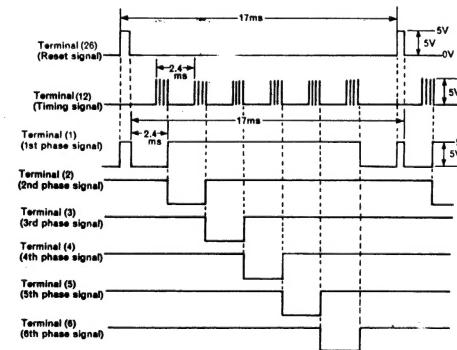

Fig. 9
The dynamic lighting system, which lights each digit at specified intervals while synchronizing with the segment signals employed in the system lighting the display tube in this unit. The 6-digit signal is generated inside IC505 to scan this. This 6-digit signal is concurrently used as the timing signal for the clock function matrix switch and the data transfer timing signal of the frequency counter. The reference signal for the 6 digit signal is obtained from the microcomputer to synchronize the microcomputer and peripheral circuitry. As the reference signal from the microcomputer, 4 timing pulses are output from terminal (12) as shown in Fig. 9 every 2.4ms and the reset pulse from terminal (13) every 17ms. These outputs are input to terminals (8) and (26) of IC505. First, when the reset pulse is input to terminal (26), output terminals (1) – (6) of the 6-phase signal are set to H level from the rise time till just before the decay of the reset pulse. When the reset signal decays, the 1st phase (output terminal (1)) of the 6-phase signal is set to L level for 2.4ms, until the 4th timing pulse input from terminal (8) is input. Simultaneously, when the 1st phase rises to H level from L level, the 2nd phase output is set to L level for 2.4ms, until the 4th timing pulse is output from terminal (8). The same principle is applied to the 3rd, 4th, 5th and 6th phase. Then, when the reset pulse is input to terminal (26) again, the same operation is repeated, each phase is set to L level for 2.4ms every 17ms and scanned in sequence from the 1st phase.